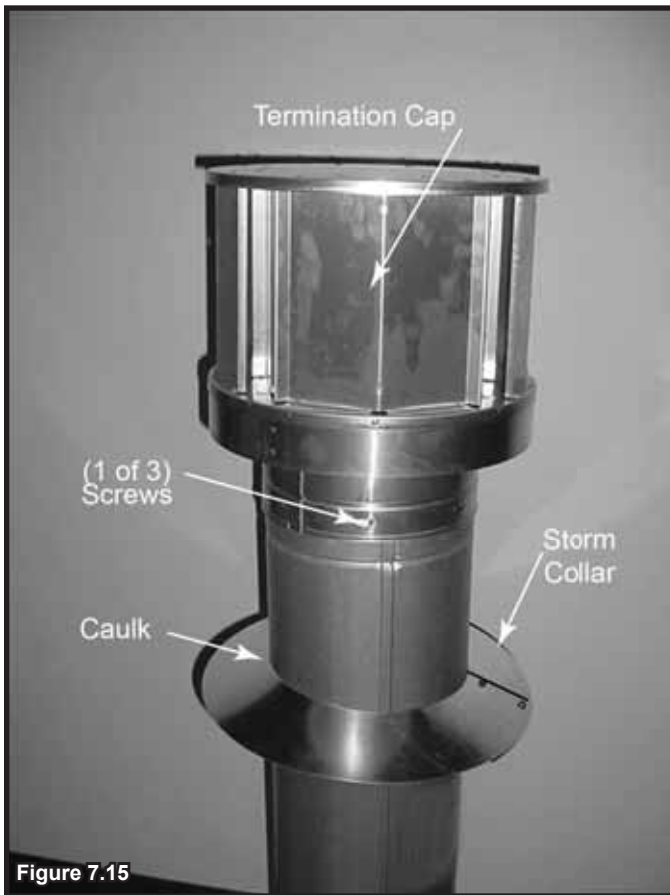

Figure 7.15
- Caulk around the top of the storm collar. See Figure 7.15.
- Secure the cap by driving three self-tapping screws (supplied) through the pilot holes in the outer collar of the cap into the outer flue of the pipe (see Figure 7.15).